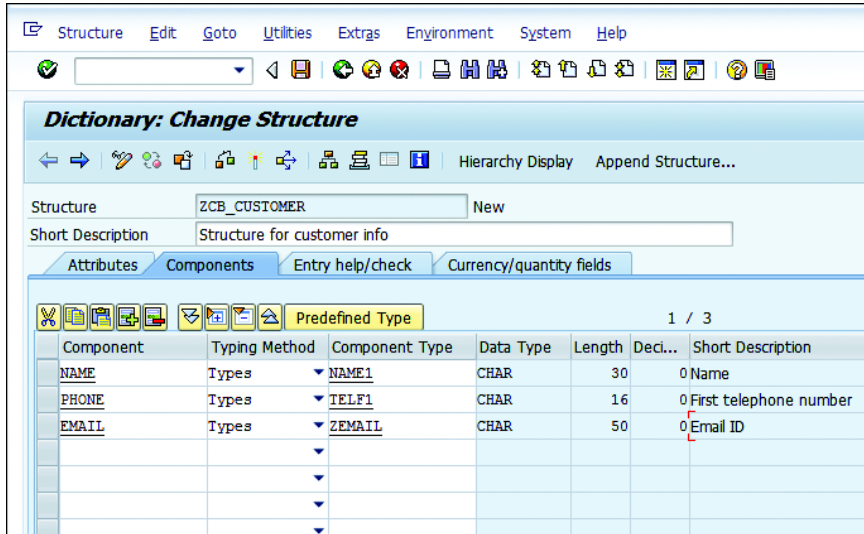

Figure 5.8 Maintaining Structure Type Components
4. On the next screen, enter a **SHORT DESCRIPTION** for your structure. Maintain the fields as shown in Figure 5.8. Enter the field name under the **COMPONENT** column. Select **TYPES** from the dropdown list under the **TYPING METHOD** column. Enter the data element name under the **COMPONENT TYPE** column and press **Enter**.